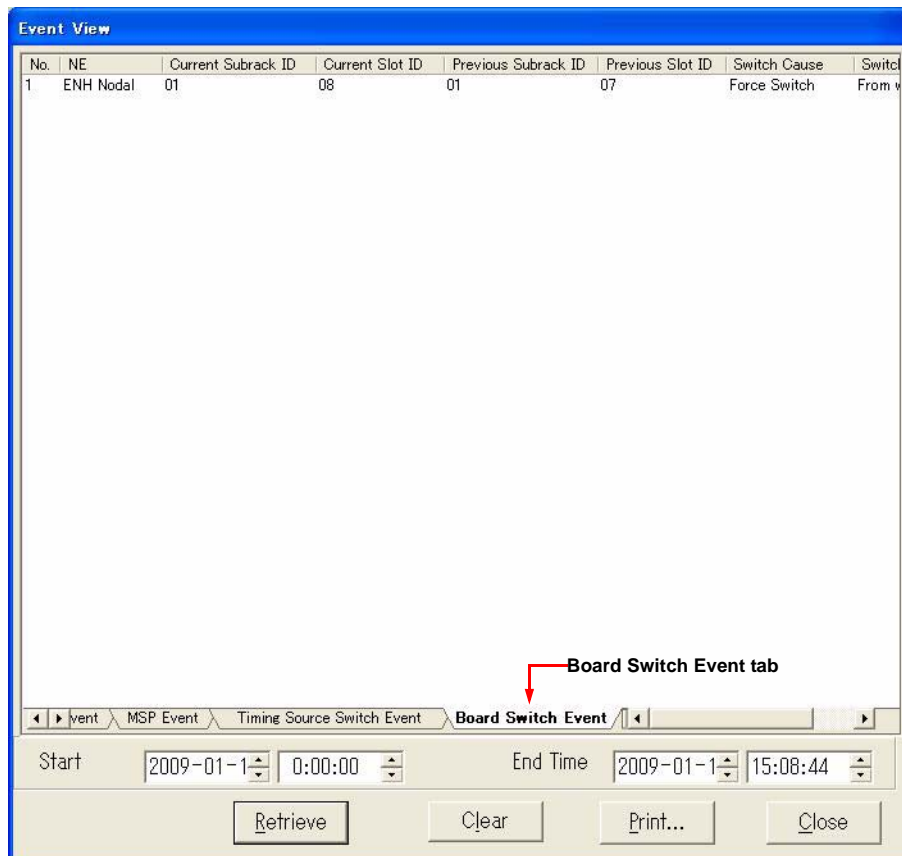

Fig. 4-7-13 Event View Dialog Box with Board Switch Event Tab
- 4 Click the **Board Switch Event** tab. The window shown in *Fig. 4-7-13* appears: